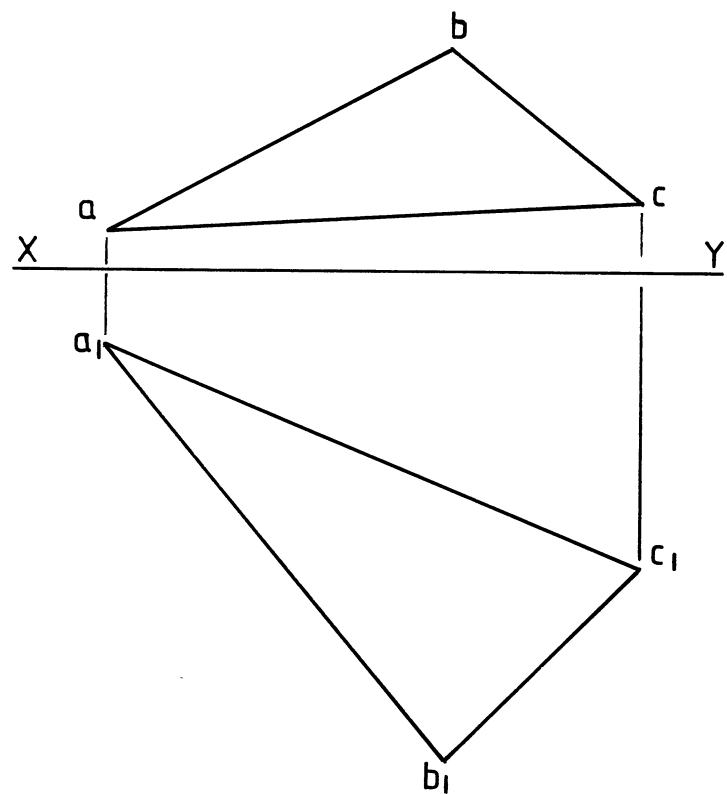

FIG. 2
**Figure 2** shows the front view and top view of plane figure **ABC**. Determine: